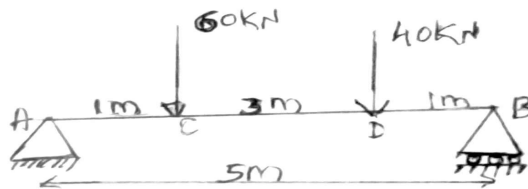

Fig. Q10 (b)
b. For a simply supported beam loaded as shown in Fig Q10 (b), determine the slopes at A, B and deflection at C and D. Also find maximum deflection under 40 kN load. 10 (3 :5 : 2.2.1)